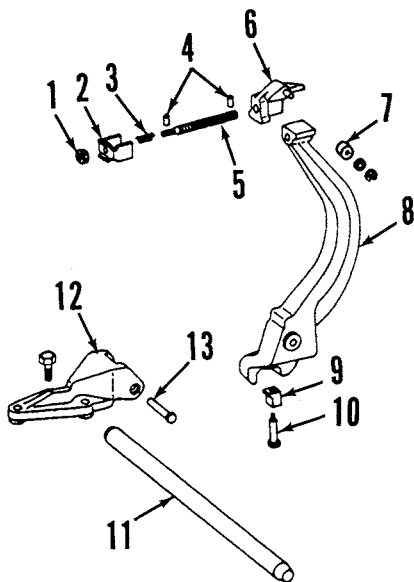

Fig. 259—Typical load control arm and associated parts used on 4050, 4250 and 4450 models equipped with Quad-Range transmission.
240. LOAD CONTROL ARM AND SHAFT. Remove rockshaft housing as outlined in paragraph 236. On Models 4250 and 4450, remove pto output shaft as outlined in POWER TAKE-OFF section. On all models, remove cap screws securing support (12—Fig. 259 or 260). Refer to paragraph 161 or 162 for differential removal procedure, then remove differential and load control arm (8) together. Do not disassemble support (12) or follower (9) from arm unless renewal is necessary. Pin (13) is a tight press fit.
Reinstall bushing supports (3) with new "O" rings (2) and tighten retaining screws to 240 ft.-lbs. (325 N·m). Reinstall load control shaft (11) along with washers (4) as required to eliminate end play. Do not force shaft through transmission case to avoid damaging control arm follower (9—Fig. 259 or 260). Install shaft retainers and snap rings, then lubricate with multipurpose grease.